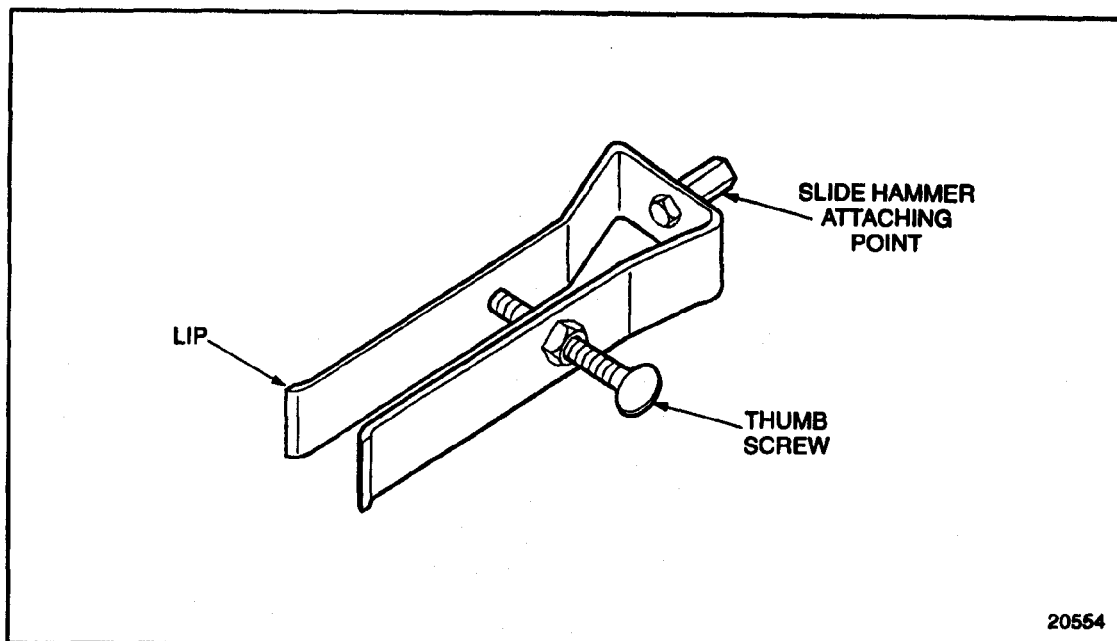

Figure 10-21 Bearing Remover
16. Install J 26941, under the bearing. See Figure 10-21.